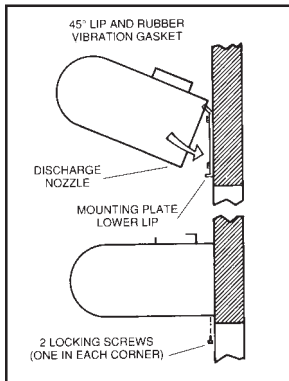

Figure 5
1. Raise the unit over the door (air discharge nozzle facing down) and on to the mounting plate. First, tilt the unit upward matching the top recessed edge of the unit to the top 45° angled lip on the mounting plate. See Figure 5.
3. After the unit is securely attached to the mounting plate, re-install the two (2) locking screws at the bottom corners. See Figure 5.